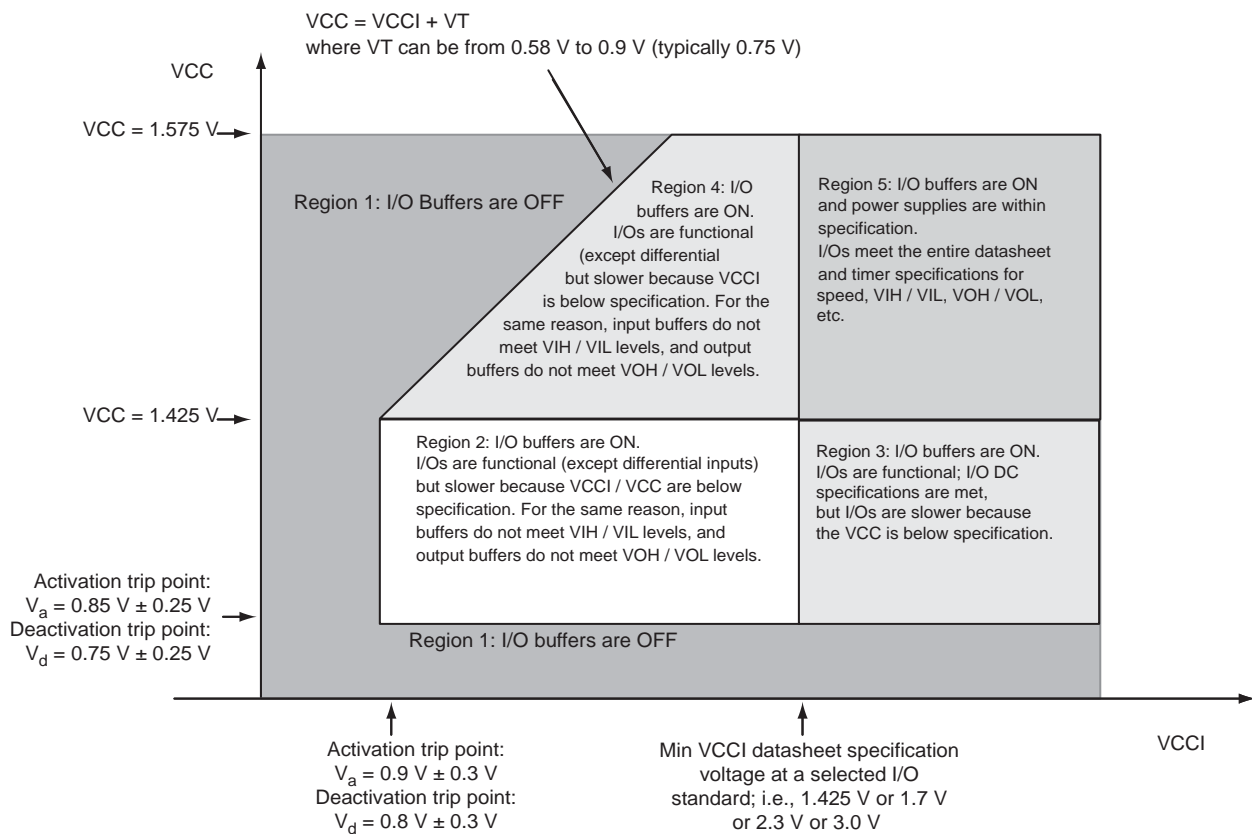

Figure 2-2 • Devices Operating at 1.5 V Core – I/O State as a Function of VCCI and VCC Voltage Levels
Sophisticated power-up management circuitry is designed into every ProASIC[®]3 device. These circuits ensure easy transition from the powered-off state to the powered-up state of the device. The many different supplies can power up in any sequence with minimized current spikes or surges. In addition, the I/O will be in a known state through the power-up sequence. The basic principle is shown in Figure 2-2 on page 2-5 and Figure 2-3 on page 2-6.
1. VCC and VCCI are above the minimum specified trip points (Figure 2-2 on page 2-5 and Figure 2-3 on page 2-6).
Microsemi recommends using monotonic power supplies or voltage regulators to ensure proper power-up behavior. Power ramp-up should be monotonic, at least until VCC and VCCPLX exceed brownout activation levels. The VCC activation level is specified as 1.1 V worst-case (see Figure 2-2 and Figure 2-3 on page 2-6 for more details).